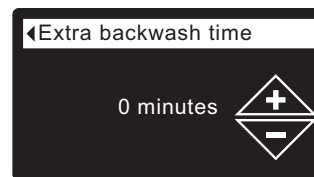

FIG. 75
- 8a. **Extra backwash time:** The backwash time during regeneration is determined by the electronic controller. However, if you experience salty tasting water after regeneration, you may want to increase it. Press the UP (▲) button to add minutes, up to 15, of extra backwash time (See Figure 75).